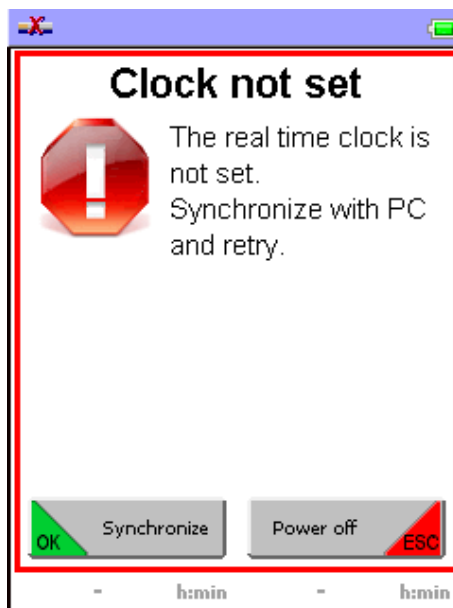

Fig. 41: Message
2. → If the control unit (BE) has never been synchronised with a PC, the message Fig. 41 is displayed. Synchronise the control unit with a PC (↪ Chapter 12.11 'Data exchange between PC and control unit' on page 99) and restart the control unit (BE) (↪ 'Starting' on page 84).
3. → If the message Fig. 41 is displayed in relation to an already synchronised control unit, the internal clock battery is faulty. Have the battery exchanged by PLARAD® service.